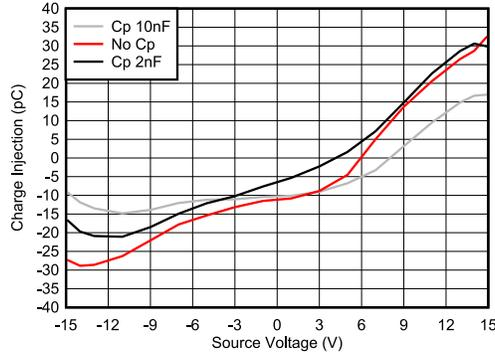

Figure 8-2. Charge Injection Compensation
The TMUX620x contain specialized architecture to reduce charge injection on the Drain (D). To further reduce charge injection in a sensitive application, a compensation capacitor (C_p) can be added on the Source (S_x). This will ensure that excess charge from the switch transition will be pushed into the compensation capacitor on the Source (S_x) instead of the Drain (D). As a general rule of thumb, C_p should be 20x larger than the equivalent load capacitance on the Drain (D). Figure 8-2 shows charge injection variation with different compensation capacitors on the Source side. This plot was captured on the TMUX6219 as part of the TMUX62xx family with a 100pF load capacitance.